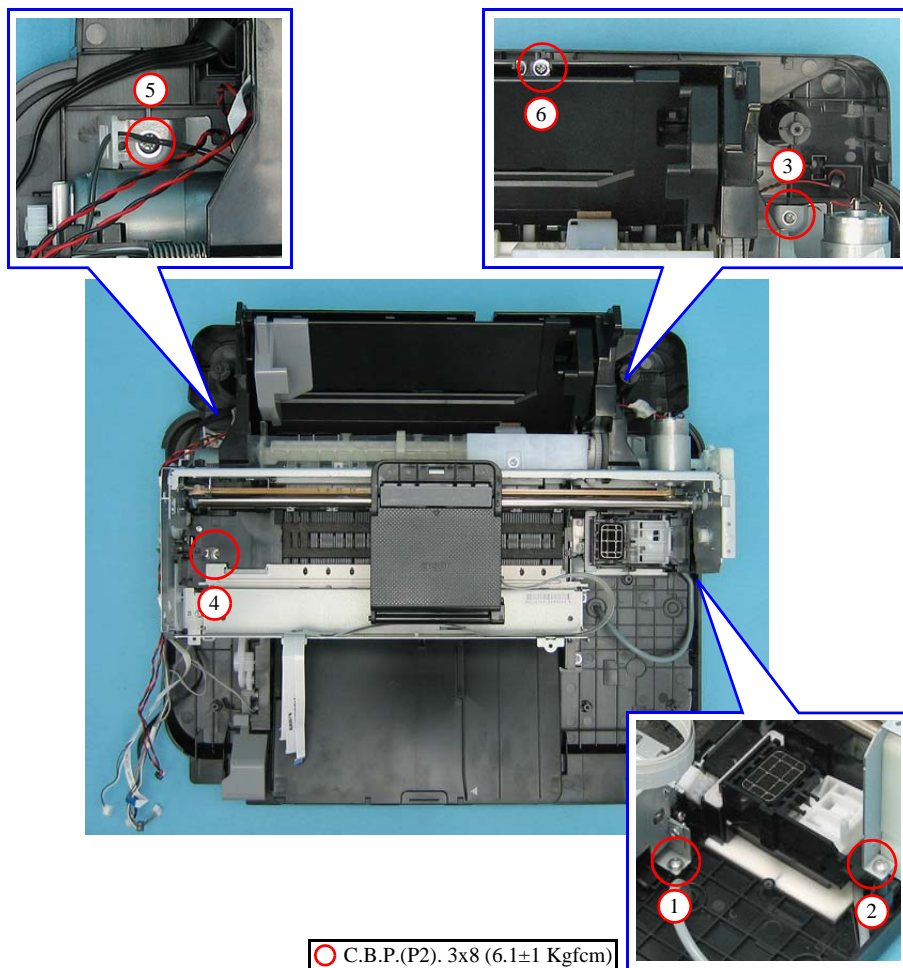

Figure 8-19. Removing the Printer Mechanism (3)
- Tighten the screws in the order given in Fig. 8-19.